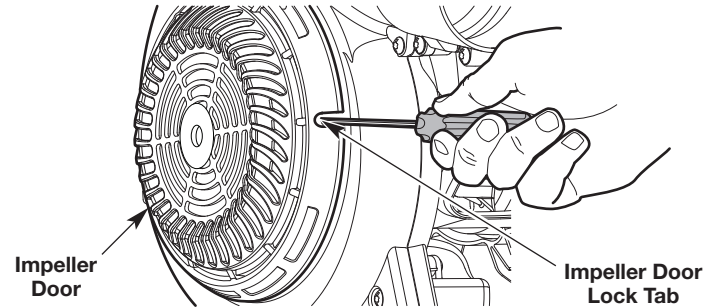

Fig. 5
2. Insert a flat-head screwdriver into the hole in the impeller door and press the impeller door lock tab inward (Fig. 5). Open the impeller door.